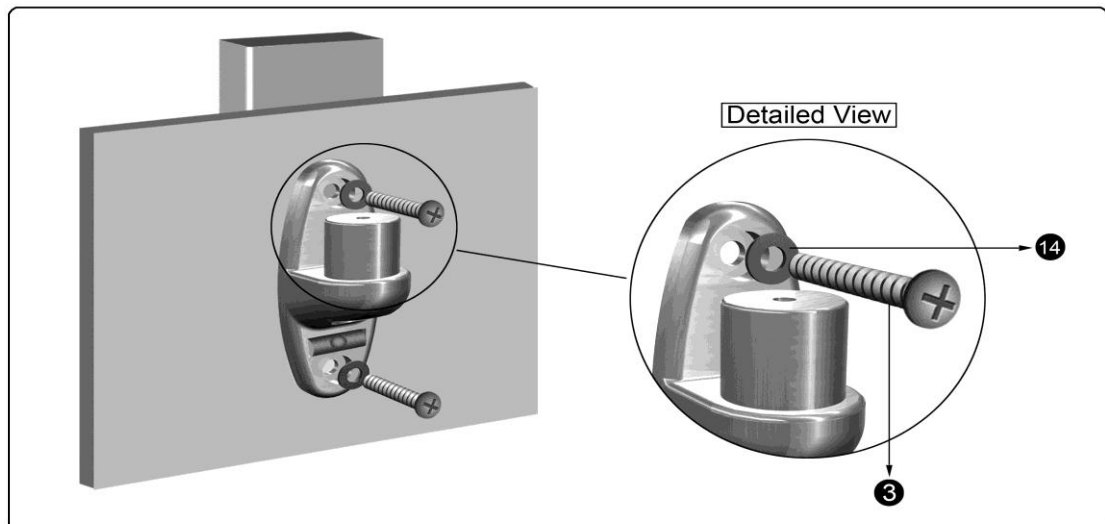

Figure 1-4
4. Insert Philips Screw ST6.3x65mm **(3)** through Washer **(14)**, Wall Plate **(2)** and finally into pilot hole. Repeat for remaining Philips Screws. Tighten Philips Screw securely (See Figure 1-4).